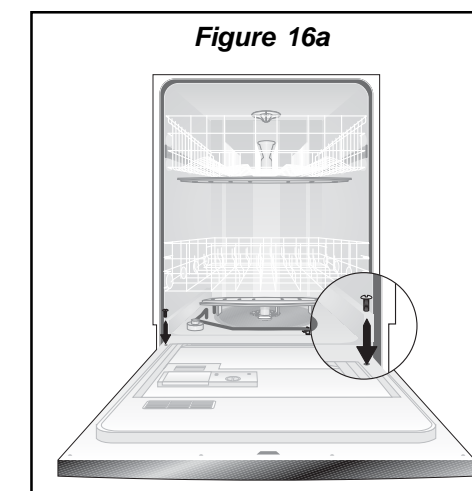

Figure 16a
- Unlatch and open door. Using a Phillips head screw driver, remove two (2) screws from inner door. Save screws to reassemble. See **Figure 16a**.